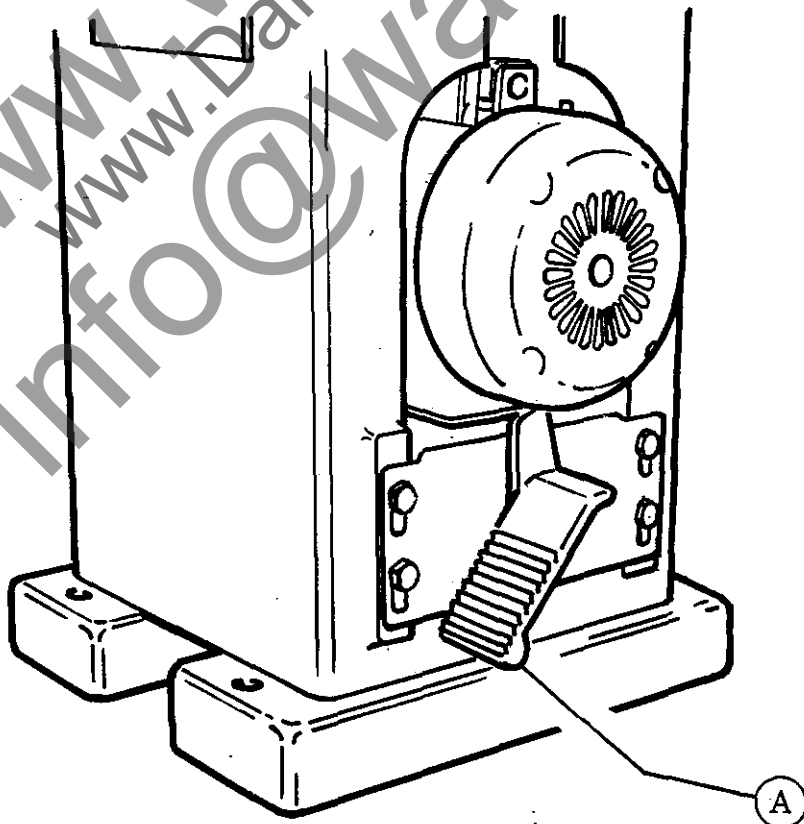

FIG C1
2. Release tension from belt by lifting foot lever "A" in Fig. C1.
1. Release lid fastener and swing lid clear at top of machine. Release belt tension by footlever "A" in Fig. C1.